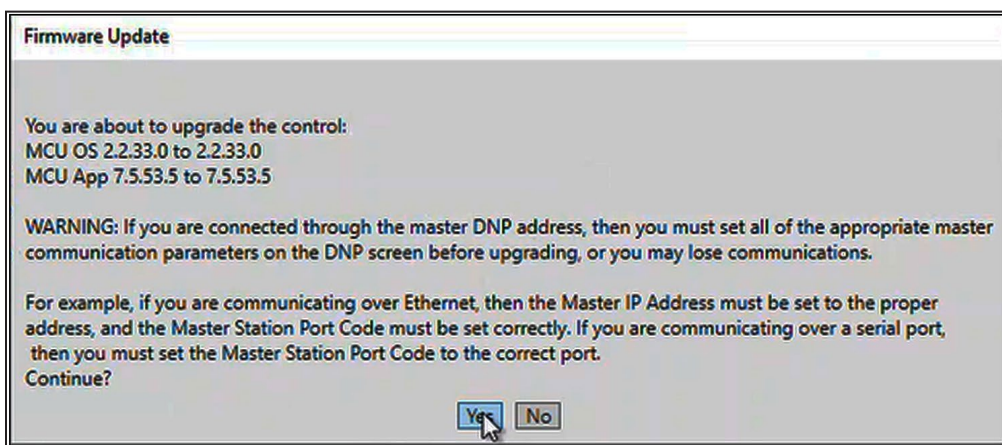

Figure 35. The Firmware Update dialog box.
STEP 17. In the Firmware Update dialog box, click on the **Yes** button. See Figure 35. Selecting “No” will end the **Downgrade** process.